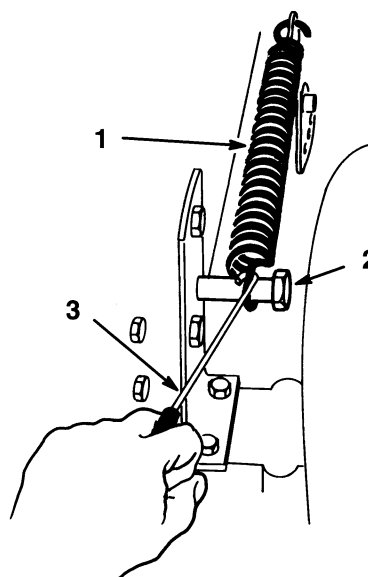

Figure 15
3. Remove the height-of-cut lift assist spring from the retaining bolt (Fig. 15), using the spring tool provided with the machine. The spring is between the frame and the right rear wheel.
13. Move the height-of-cut lever (deck lift) into the “D” notch. Hook lift assist spring onto retaining bolt for storage (Fig. 15).